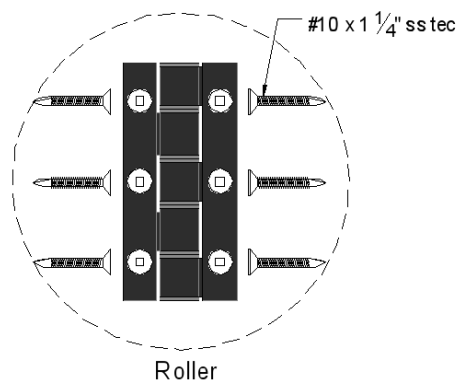

FIG 7.
- Attach the top and bottom rollers to the panel (make sure rollers are set to the correct dimension as per page 4 FIG 4.) using screws provided (See FIG 7.). Make sure that the roller hinges are set 2 3/8" (60mm) from the bottom of the panel and 2 3/8" (60mm) from the top of the panel.